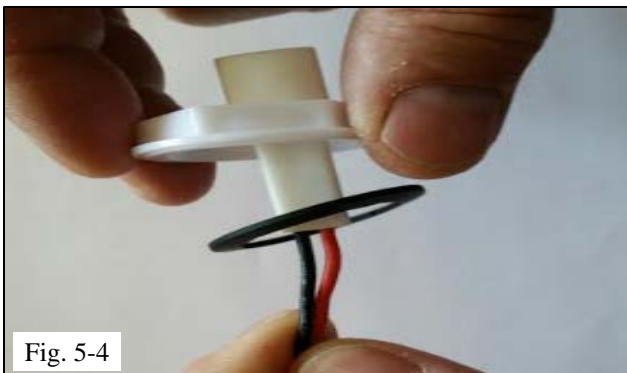

Fig. 5-4
- (d) Feed the wiring harness through the lock washer and nut. The lock washer goes on first to where the nut flange will be against the washer (Fig. 5-4).